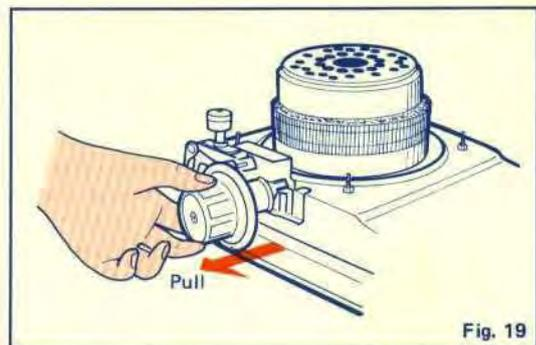

Fig. 19
8. Pull wick control knob out 1/2"(10mm) to disengage the wick control shaft from the gear plate on the wick holder (See Fig. 19).